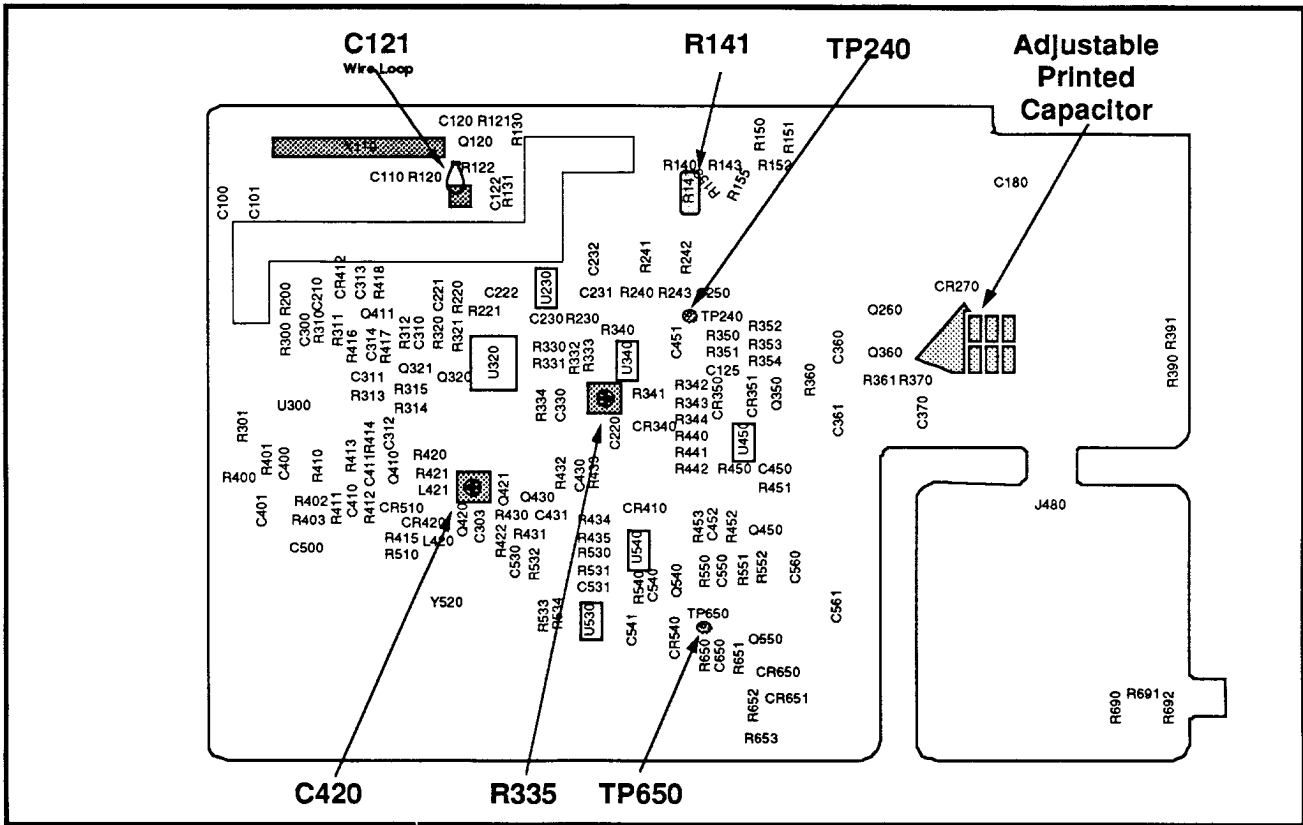
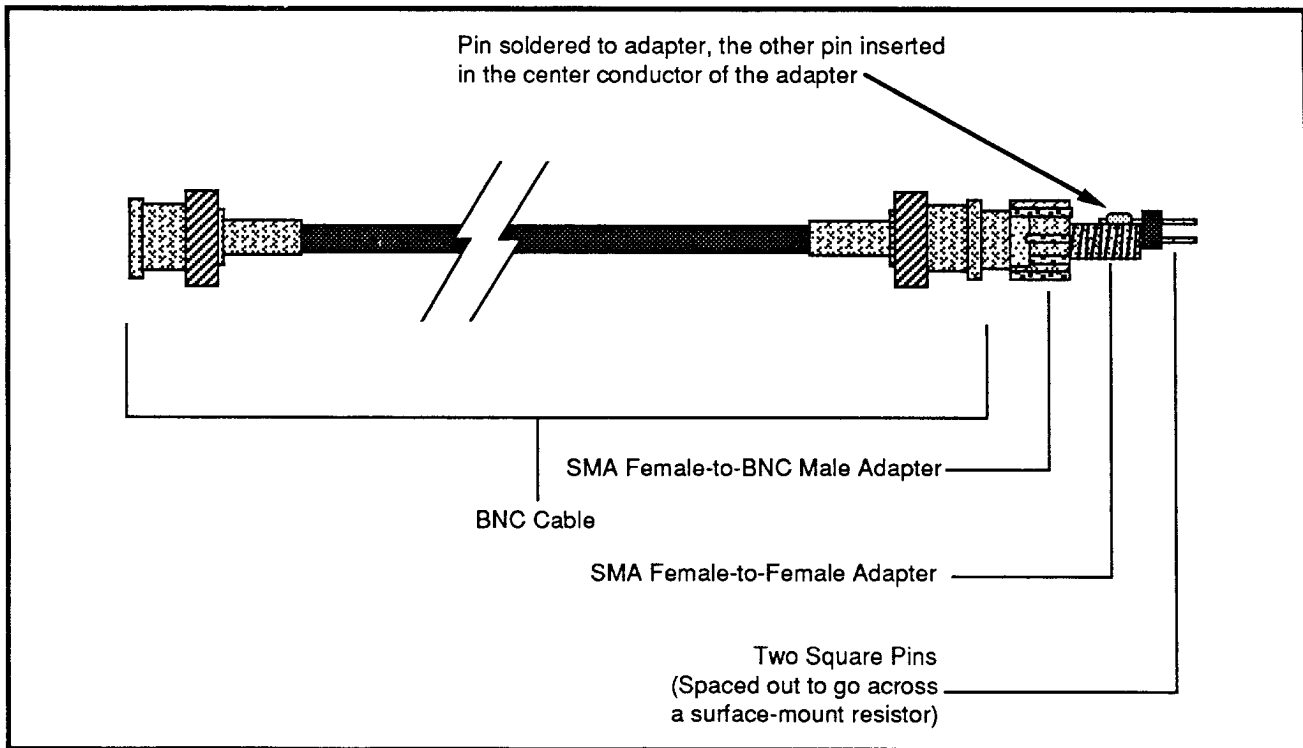
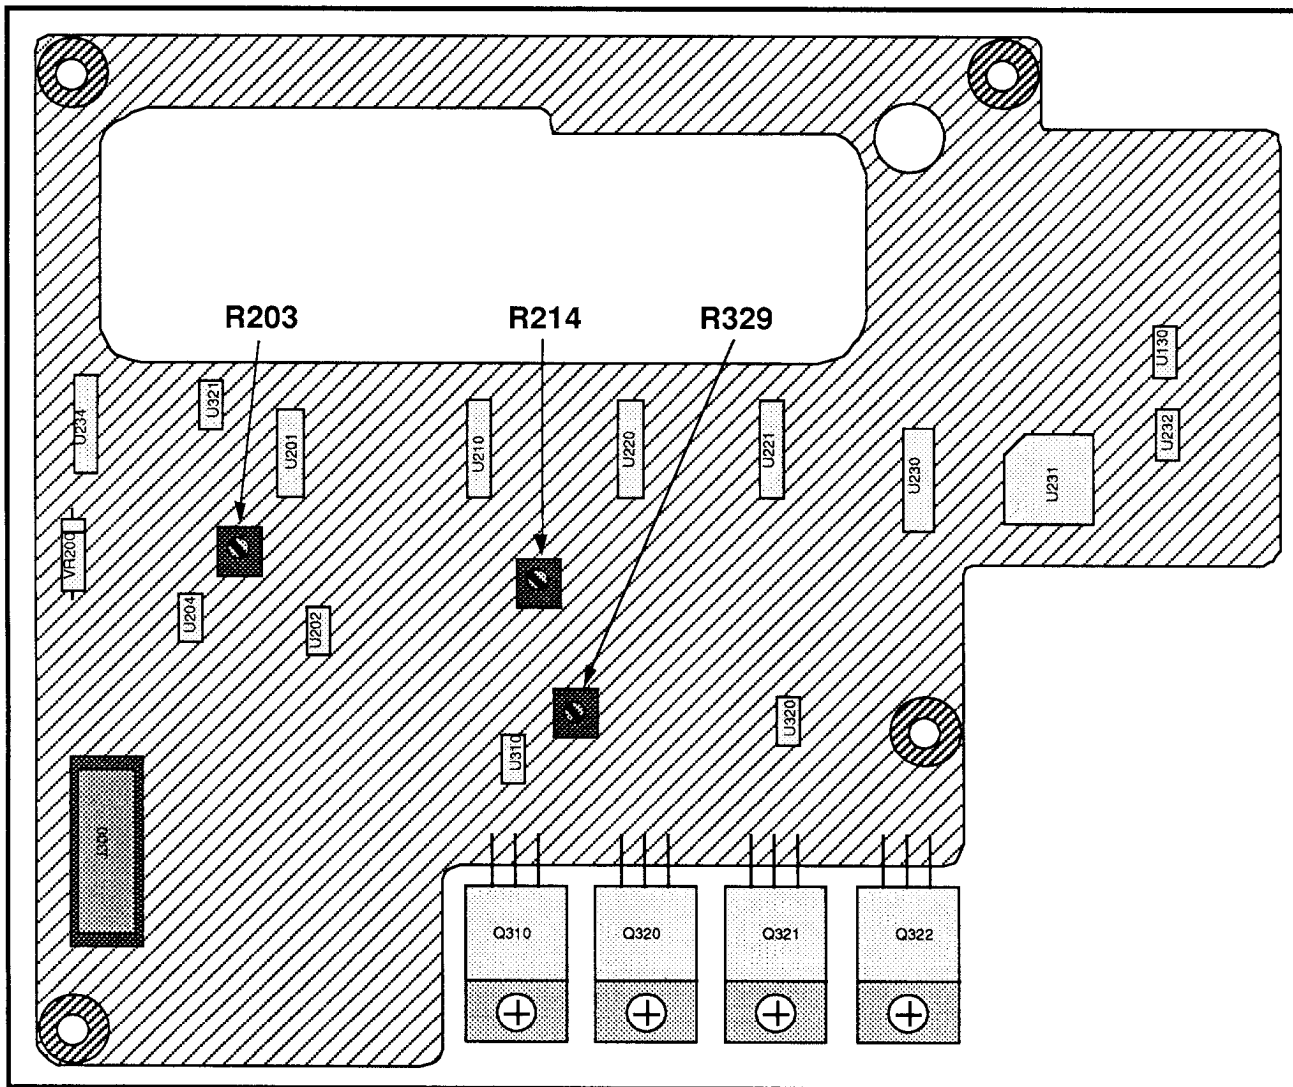

Figure 4-15. Adjustment locations on the Phase Lock Loop board.
Figure 4-16. Special probe construction.
Figure 4-17. Adjustment locations on the Interface board.
- Special Test Probe (Figure 4-16)
- (1) Enable SPECTRAL DISPLAY IN MENUS mode by pressing UTIL 4 3 6. Press any menu button to exit the menu.
- (2) Enable the 105.5 MHz oscillator by pressing UTIL 5 7 4, and set the frequency DAC value at 1600 by pressing 1 and entering 1600 (terminate with W).
- (3) Monitor the collector of Q420 on the Phase Lock Loop board with the test oscilloscope. Set the test oscilloscope vertical for 50 mV/div and AC-coupled, and set the sweep rate at 0.1 μ s/div.
- (4) Adjust C420 for peak amplitude on the test oscilloscope. See Figure 4-15 for the location of C420.
- (5) Press 9 (frequency count enable) and check that the counted frequency is \approx 105 MHz. If it is not, readjust C420 to the next signal peak and check again. Repeat this step until the count is \approx 105 MHz.
- (6) Set the frequency DAC value at 0 by pressing 1 and entering 0 (terminate with W).
- (7) Press 9 (frequency count enable) and check that the counted frequency is \geq 105.501 MHz.
- (8) Turn the FREQ/MKRS knob counter-clockwise one click (frequency DAC value =4095).
- (9) Press 9 (frequency count enable) and check that the counted frequency is \leq 105.496 MHz.
- (1) Enable SPECTRAL DISPLAY IN MENUS mode by pressing UTIL 4 3 6.
- (2) Enable the 105.5 MHz oscillator by pressing UTIL 5 7 4. (This enables the tracking generator.)
- (3) Monitor TP240 on the Phase Lock Loop board with test oscilloscope. See Figure 4-15 for the location of TP240.
- (4) Adjust C121 (Figure 4-15) on the Phase Lock Loop board for 7 VDC at TP 240. (C121 may be a wire loop, chip capacitor, or metal tab.)
- (5) Turn the power off and back on, and check for +7 VDC at TP240.
- (6) Select the following settings on the test spectrum analyzer:
- (7) Monitor the signal across R141 on the Phase Lock Loop board with the test spectrum analyzer using the Special Test Probe of Figure 4-16 (Special Test Probe across R141). Locate a 2110 MHz signal across R141.
- (8) Reduce the Span/Div setting to 200 kHz while keeping the 2110 MHz signal centered with the FREQ/MKRS knob.
- (9) Set R335 on the Phase Lock Loop board fully clockwise. See Figure 4-15 for the location of R335.
- (10) Use the test spectrum analyzer reference level control to set the 2110 MHz signal 10 dB above top screen.
- (11) Make a note of the phase noise amplitude 300 kHz (1.5 divisions) away from the 2110 MHz signal.
- (12) Adjust R335 on the Phase Lock Loop board to raise this phase noise by 3 dB.
- (13) Recall default power-up settings by pressing UTIL 1 1.
- (1) Connect the tracking generator Output to the RF INPUT.
- (3) Set the tracking generator output attenuation to 0 dB by pressing 0 0 Y.
- (4) Set the AMPLITUDE DAC VALUE to 1600 by pressing 2, entering 1600, and pressing keypad W to terminate the entry. Press any menu button to exit the menu.
- (5) Recall the saved spectrum analyzer flatness display settings by pressing UTIL 1 8 W.
- (6) Enable B, C MINUS A mode by pressing DSPL 2 and B, C MINUS A OFFSET TO CENTER by pressing DSPL 3. Turn off all displays except the B DISPLAY.
- (7) Connect the tracking generator output to the RF INPUT.
(8) Set R329 (Figure 4-17) on the Interface board for a signal near mid-screen.